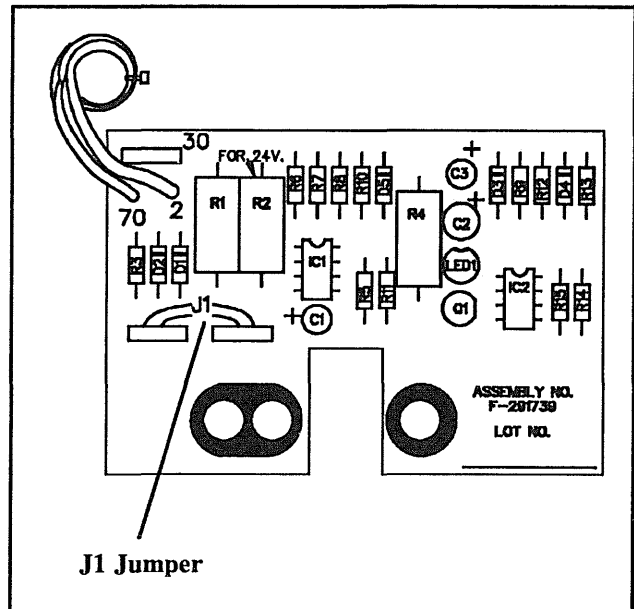

Figure 6-3. Overvoltage Circuit Board
5. If the generator is equipped with the overvoltage kit, the J1 jumper must be in place on the overvoltage circuit board if the generator is connected for 139/240 or 277/480 Volts (3-phase, 4-wire, 60 Hz). For all other voltages, remove the J1 jumper from the overvoltage circuit board. See Figure 6-3 for J1 jumper location on overvoltage circuit board.